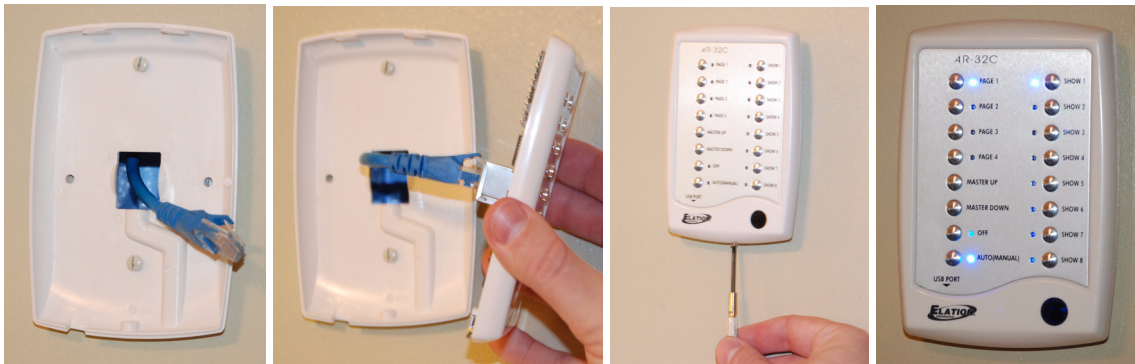

Figure 5
2. Pull the Category 5 Ethernet LAN cable RJ-45 connector through the center hole on the back cover (Figure 5).